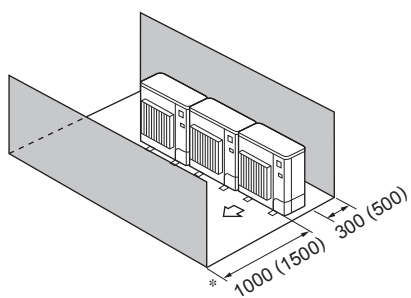

Fig. 1-14
- ④ Obstacles at front and rear only (Fig. 1-14)